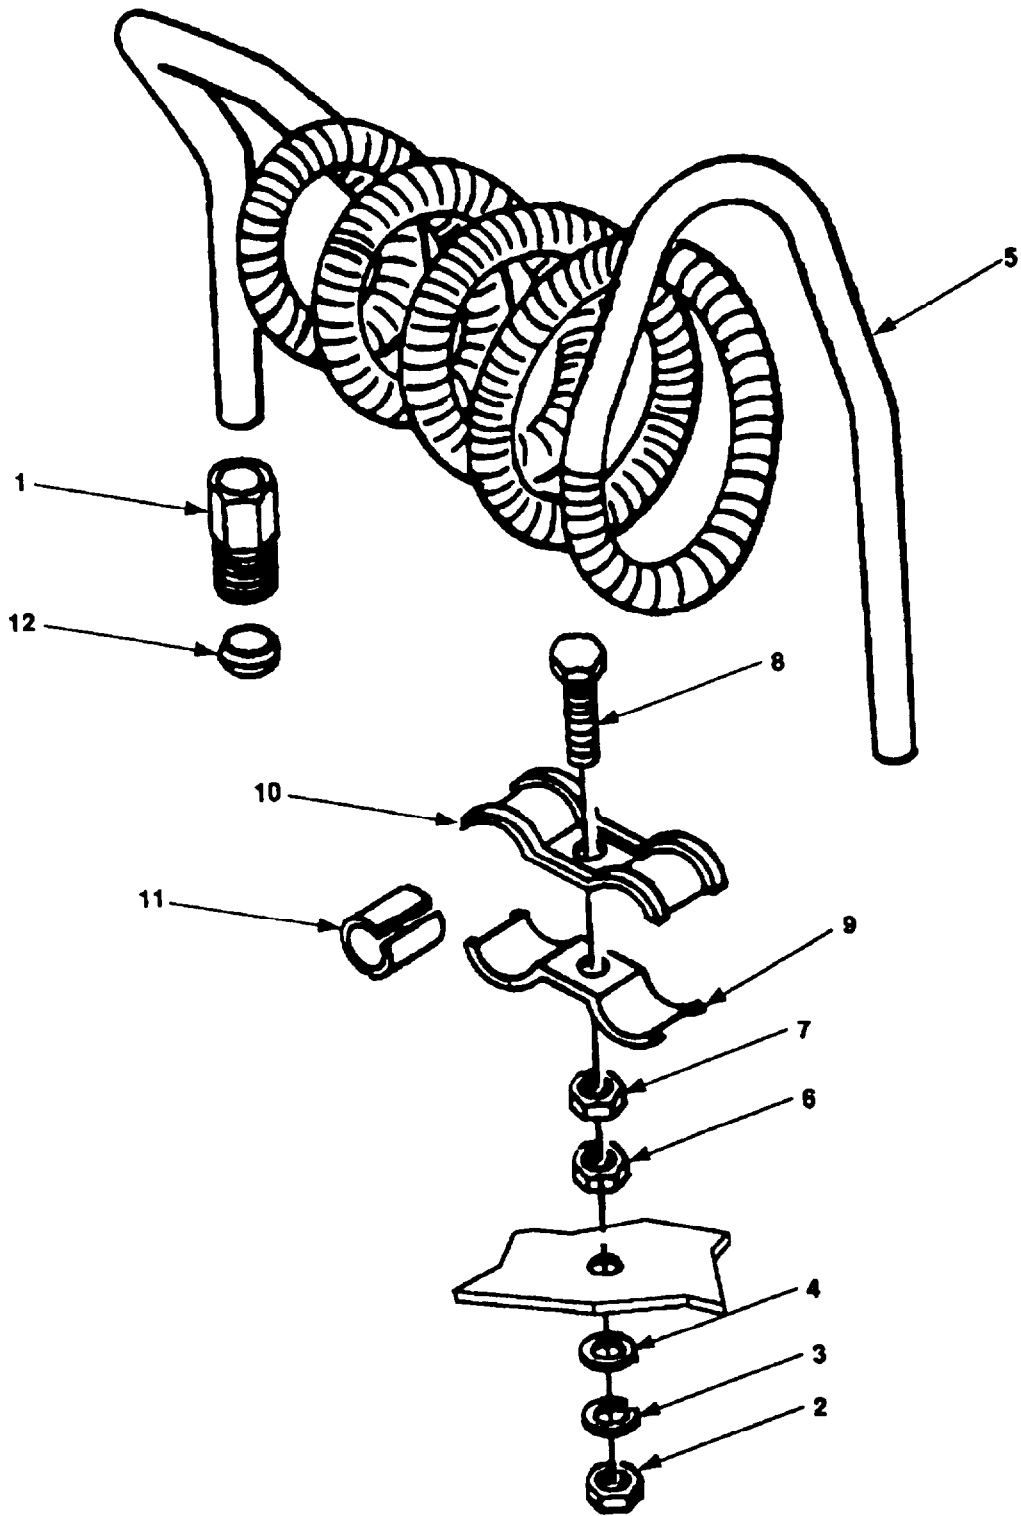

Figure 4-32. Cooling Coil Maintenance (Models 350 PAW and W-87012).
- a. Loosen two cooling coil connectors (figure 4-32,1).
- b. Remove two nuts (2), lockwashers (3) and washers (4).
- c. Lift cooling coil (5) out of engine.
- e. Remove two bolts (8) and separate two bottom clips (9) and two top clips (10) from cooling coil (5).
- f. Remove four rubber sleeves (11).
- a. Position four rubber sleeves (11) around bottom of cooling coil.
- b. Position top two clips (10) and bottom clips (9) over rubber sleeves and secure with bolts (8) and nuts (6 and 7)
- c. If required, slide new connectors (1) and ferrules (12) onto tubing, and position cooling coil (5) in engine.
- d. Install washers (4), lockwashers (3) and nuts (2).